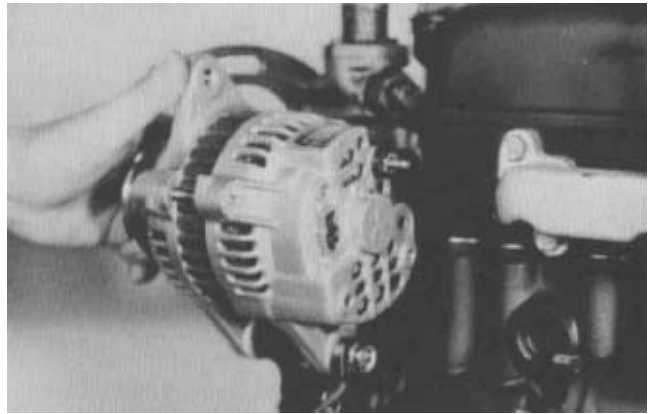

Figure 40
4. Loosen alternator brace bolt and alternator support bolt (Fig. 40). Push the alternator toward the engine and remove the belt.